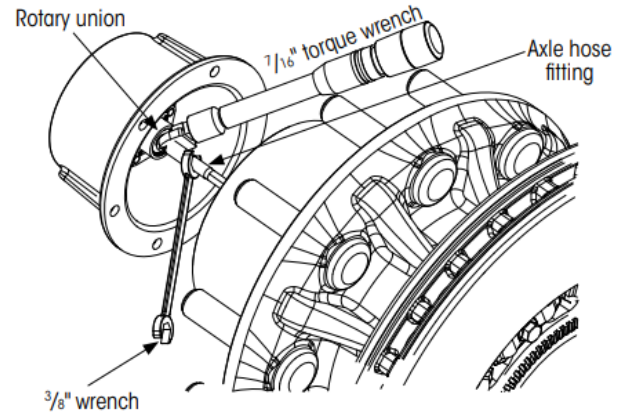

Figure 3: Hubcap to axle hose connection
1. Draw just enough axle hose out from center of spindle to attach axle hose fitting to the rotary union inside the hubcap (Figure 3)
4. Using a 3/8"-wrench to prevent rotation of the axle hose fitting, (Figure 3) tighten the rotary union shaft to 50±5 in-lbs (5.7±0.6 Nm) of torque